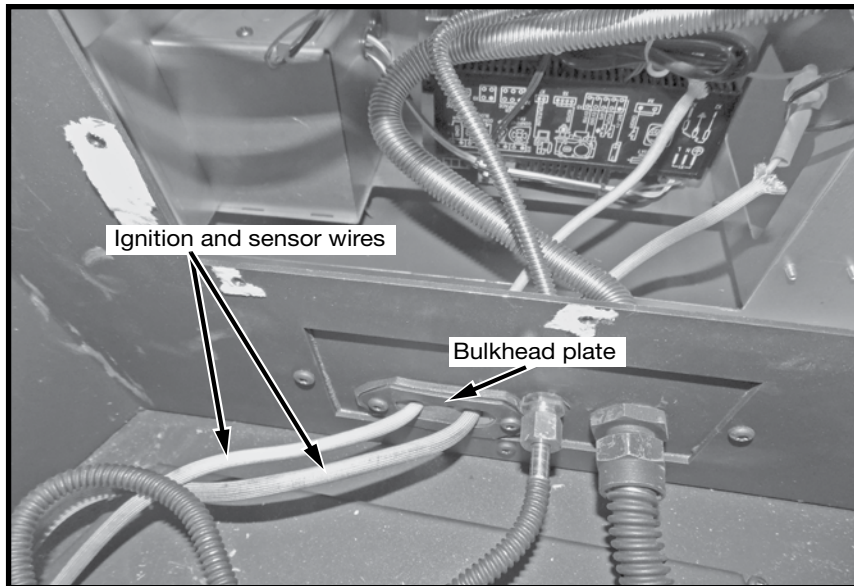

Figure 6: Routing ignition wires.
5. Feed the ignition and sensor wires through the bulkhead plate to the interface module. (Figure 6).